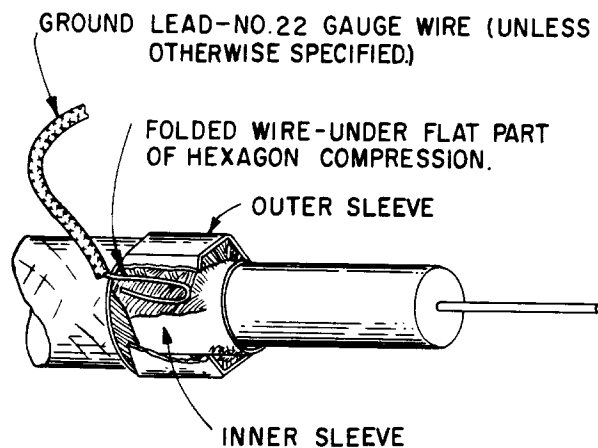

Fig. 4 — Portion of Coaxial Office Cable with Lead for Ground Connection
4.01 Where a lead for ground connection is required (see Fig. 4), use inner and outer sleeves as follows:
4.02 The inner sleeve, shown under the wire braid in Fig. 4, should project approximately 1/32 inch beyond the inner braid.
4.04 Use No. 22-gauge wire where a lead for ground connection is required (unless a heavier gauge is specified), fold the lead as shown in Fig. 4, and insert between the outer sleeve and the wire braid.
- (a) If the KS-15712, List 4 or 5, (plain) outer sleeve is used, move the inner sleeve backwards under the wire braid so that the inner sleeve projects approximately 1/32 inch beyond the wire braid (see Fig. 4).